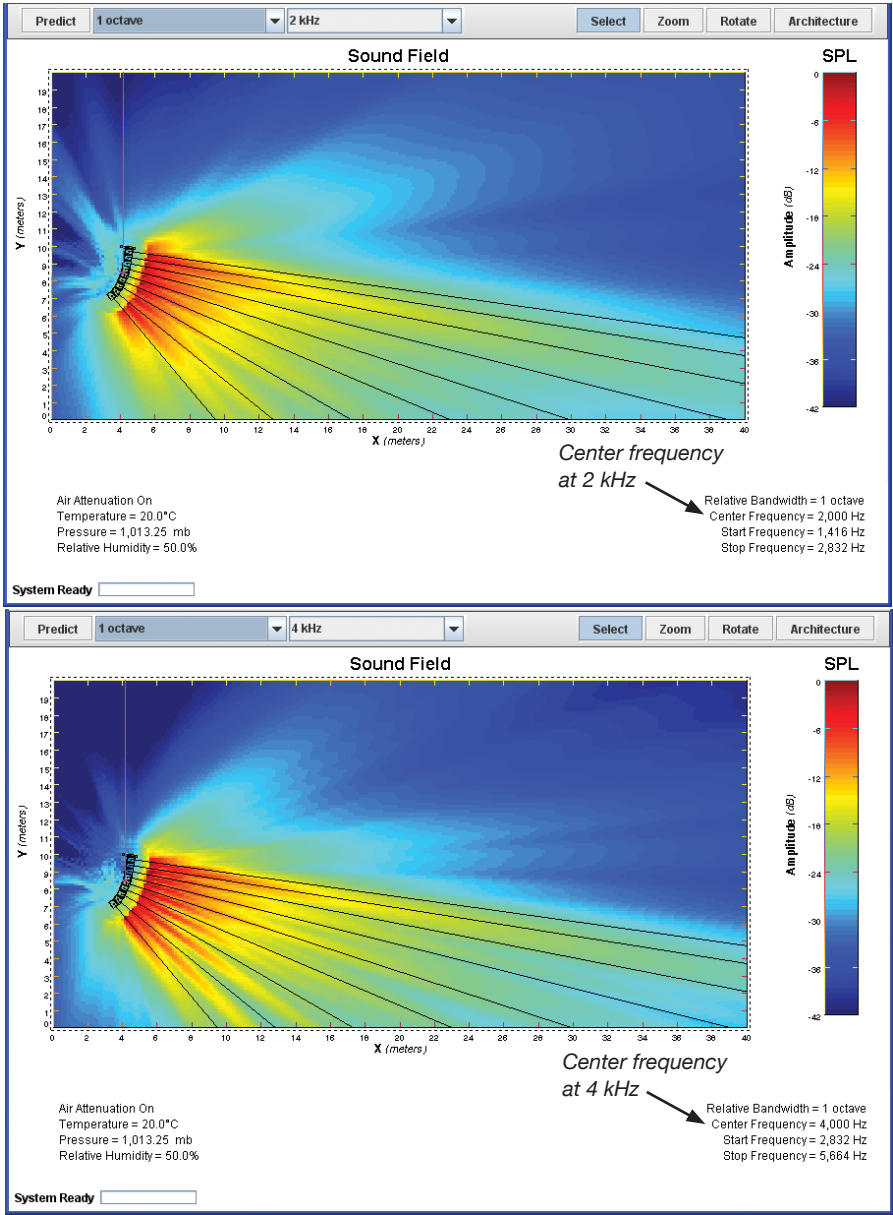

Figure 51. Sample predictions of an array system with nine elements at 2 kHz and 4 kHz
**NOTE:** When the speaker element is changed, the ID number starts over at (1) unless the loudspeaker model can use rigging hardware that allows increased angles (e.g., MVE-MILO). Rigging elements are never given an ID number.
e.g., 1/1 octave at 2 kHz and then predict at 4 kHz (Figure 51).